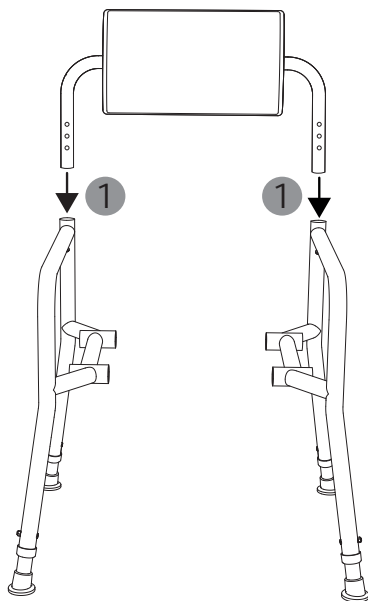

Fig. 4
3. The first step is to slot the backrest into the side elements (1, Fig. 4). During assembly, take care to ensure that the parts are all aligned correctly and facing the right way. The side element sockets for the plug-in tubes should be pointing inwards. When slotting the backrest into the side elements, make sure that the backrest cushion is facing forwards.